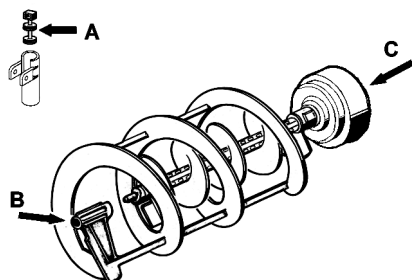

figure 13
- 1 Lubricate faucet piston, inside auger and outer spiral (see points A, B and C of figure 13) only with the grease supplied by the manufacturer or other **food grade approved** lubricant.